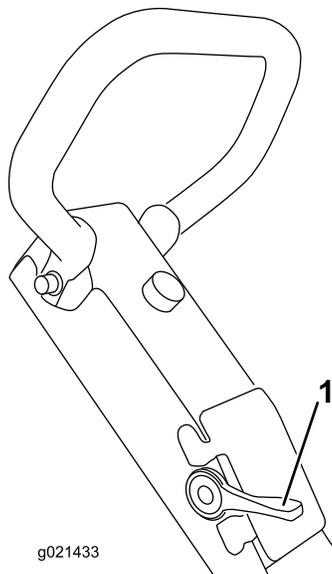

Figure 14
1. Move the throttle control lever to the slow position (Figure 14).